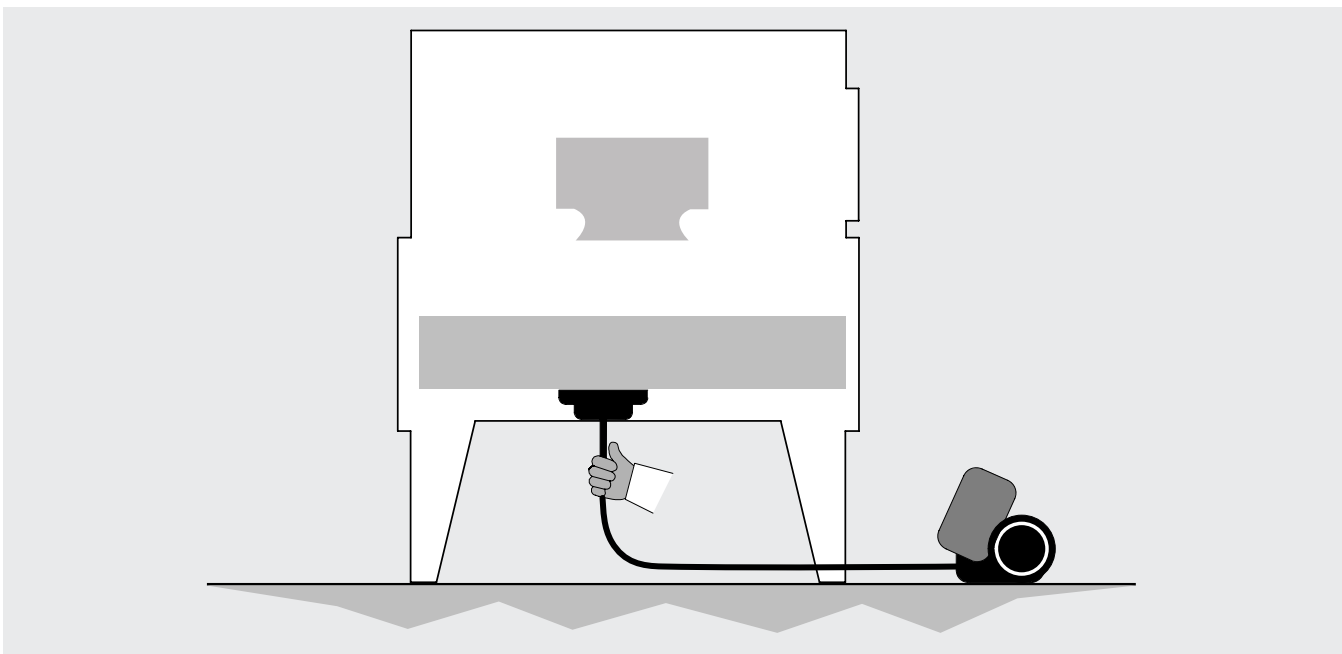

Figure 12
- 12.11.2 Vacuum from the bottom part of the model (air inlet side), taking care not to damage the fins. See Figure 12.